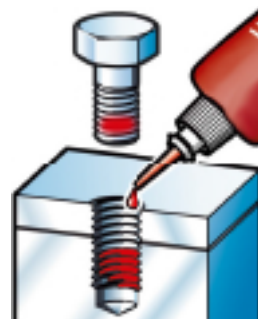

FIG 2
- 3. Apply several drops of adhesive down the sides of the blind hole filling the lower third. Apply several drops to the bolt, Assemble and tighten (FIG 2).**